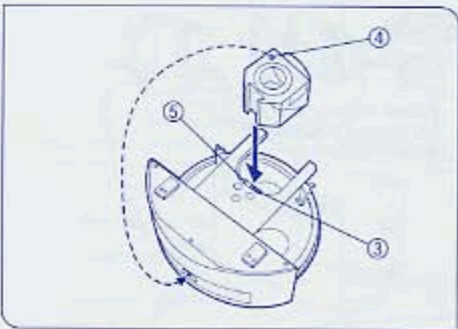

Fig. 2
- ★ When performing reflected light fluorescence observation, make sure to tighten the cube clamping screws ③. If a screw is left loose, the protruding screw head may impede turret rotation. (Fig. 2)